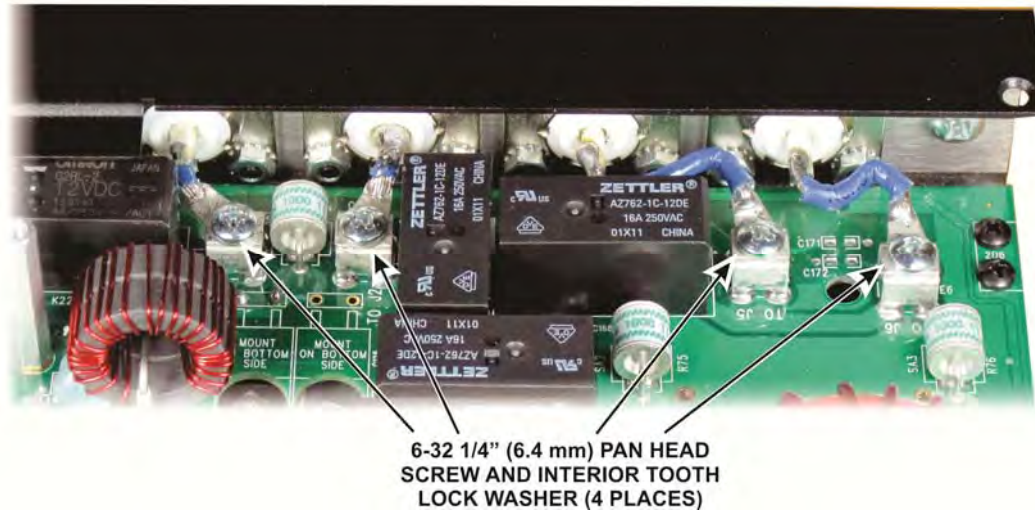

Figure 27. Securing SO-239 Wires to the PC Board Screw Posts.
- Attach the wires leading to each of the SO-239 connectors to the screw posts on the pc board as shown in Figure 27.
- The four screws securing the SO-239 connector leads to the standoffs on the pc board (Figure 27, page 36).